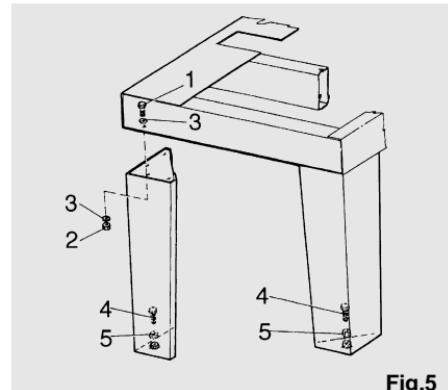

Fig.5
Use a spring level and turn screws (4) until the machine is level. Tighten lock nuts (5), figure 5. To ensure maximum safety and efficiency of the machine, the floor is to be made of well-levelled concrete. If the floor does not meet such requirement, a concrete slab will have to be prepared.